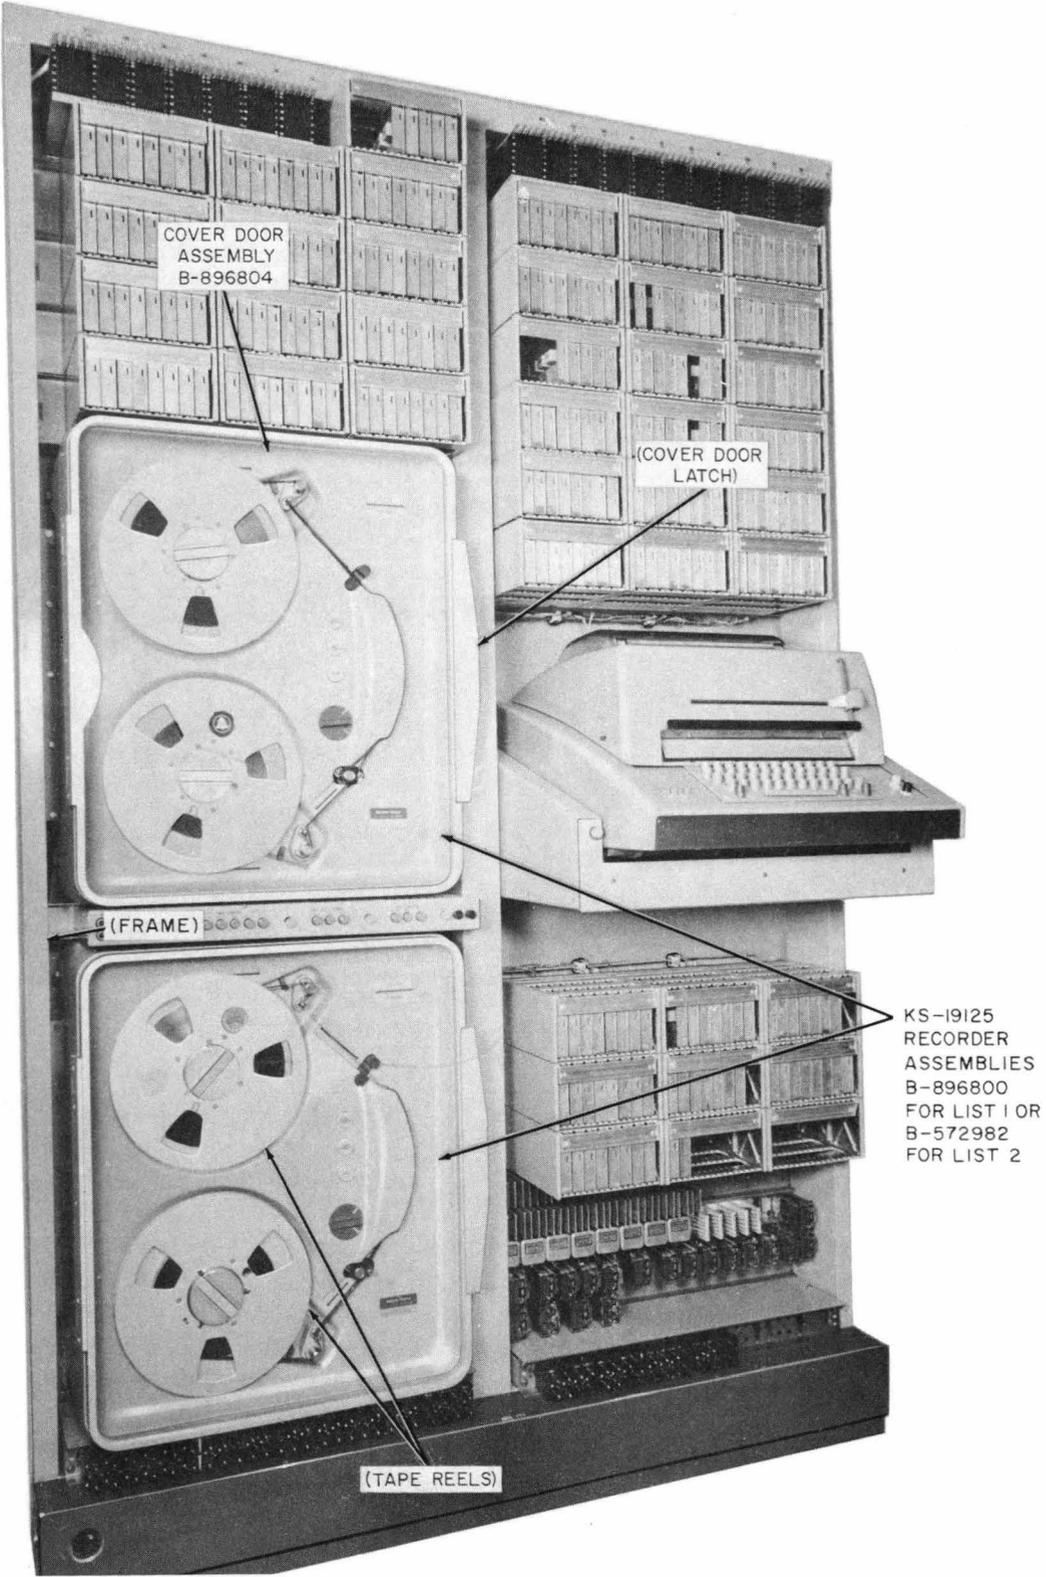

Fig. 1 — KS-19125 Recorder Assemblies in Normal Operating Location in AMA Recorder and TTY Unit
3.03 No procedure is given for removal of the recorder assemblies (Fig. 1) from the AMA
3.06 **Cover Door Assembly:** To replace cover door assembly (Fig. 1), proceed as follows:
(2) To remount cover door assembly, apply KS-19094, L1 antiseize compound to the threads of the four hinge block screws (Fig. 3) and place cover door assembly in position by inserting the stops through the slots in the recorder housing. Using the 3/32-inch Allen wrench, secure upper and lower hinge blocks and shims with the four screws and lockwashers. Using a screwdriver blade against the ear of the upper stop insert, force insert into slot until the ear engages the access hole. Similarly engage the lower stop insert. Check that cover door is centered on the front of the recorder when closed and add or remove hinge block shims as required. It is not necessary to disengage stops to adjust shims. Using the 5/64-inch Allen wrench, adjust latch strikes so that gasket makes sealing contact along the full periphery of the cover door when the latch is in the fully closed position as shown in Fig. 1.